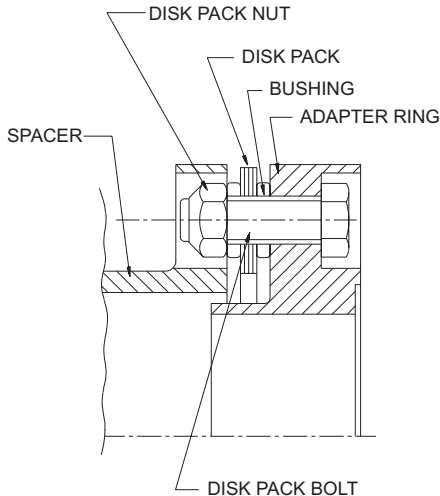

Figure 7. Bolt Disc Pack to Adapter Ring.
6.4 Line up the bushings of the new disc pack with the reamed holes in the ring, lightly tap on the bushings to start them into the holes. Insert 3 disc pack bolts and nuts with the bolt heads in the ring counterbore hole, tighten them evenly to pull the bushing into the ring flange (see Figure 7).